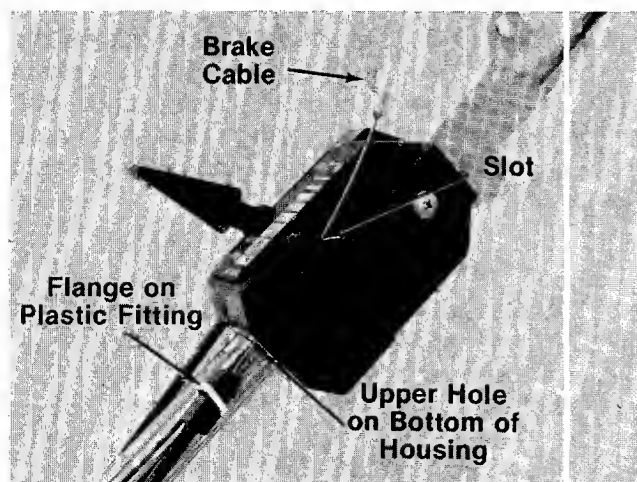

FIGURE 7.
5. Route the brake cable under the lower handle. Place the end of the brake cable into the upper hole on the bottom of the control housing, and through the slot in the side of the housing as shown in figure 7. The angle of the flange on the plastic fitting must be positioned downward as shown. Be careful not to bend or kink the cable.